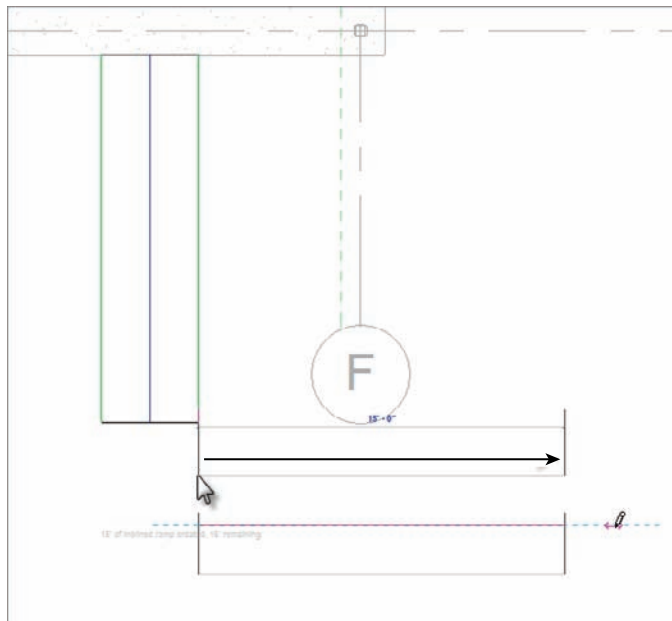

FIGURE 10.86 The second leg of the ramp
18. Pick a point about 6'-0" (1800mm) below the end of the ramp, in alignment with the right boundary, as shown in Figure 10.86. After you pick the second point, the view should read "30' of inclined ramp created, 0 remaining."
19. Move your cursor to the right until the ramp stops (see Figure 10.86).